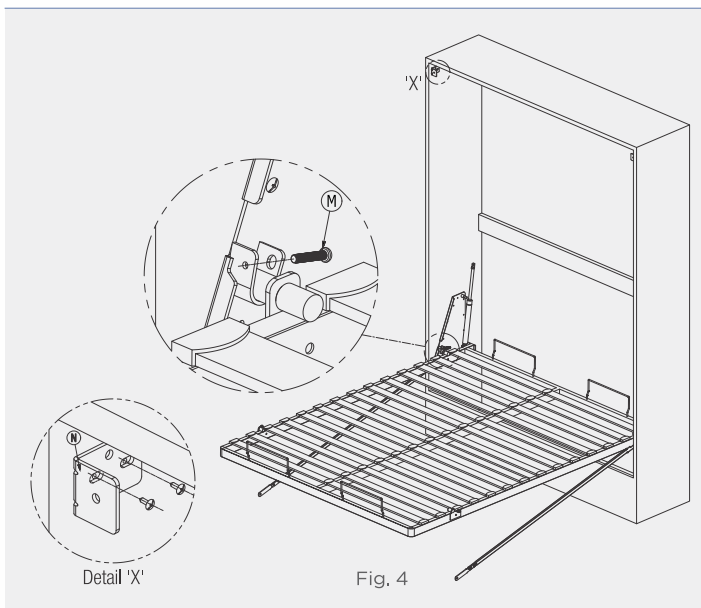

Fig. 4
- Insert the assembled frame into appropriate seat on Fix Bracket Assemblies (H), then tighten the M6 Allen Socket screws (M) onto appropriate hole of the plate. Lean temporarily on the floor two Rectangular Link Assembly (J). Assemble the Frame Stopper (N) on both the top sides of Cabinet as shown in Detail View 'X'. For dimensions refer Cabinet Dimensions. Leave the shaft side of gas pump pointing upwards as shown in Fig. 4